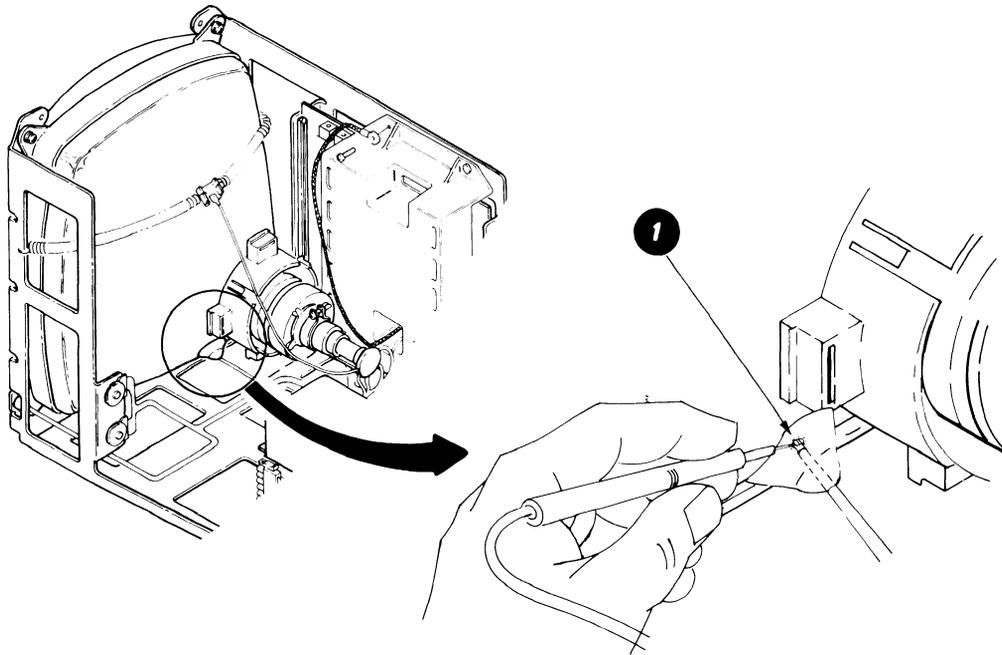

Figure 10 - Anode Boot
6. Push the probe end of the meter lead under the boot on the anode **1**. Visually ensure that the probe tip touches the metal prongs on the anode lead (see Figure 10).